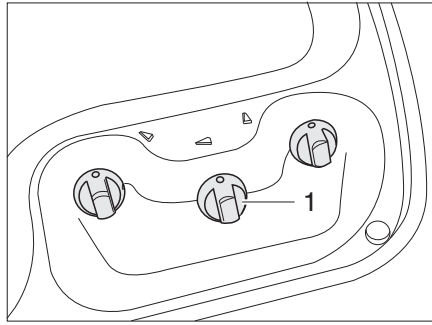
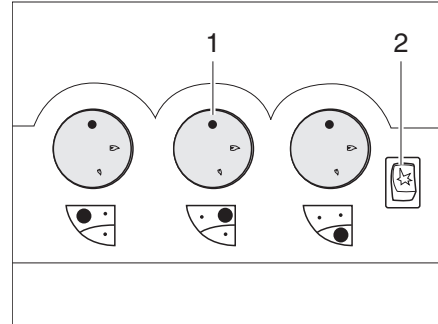

Fig. 308 Operating controls for gas cooker (without piezo ignition button)
Fig. 309 Operating controls for gas cooker (with piezo ignition button)
- Turn the control knob (Fig. 308,1 or Fig. 309,1) on the burner you wish to use to the ignition position (large flame).
- If an ignition button (Fig. 309,2) is present: Create a spark by pushing the ignition button.